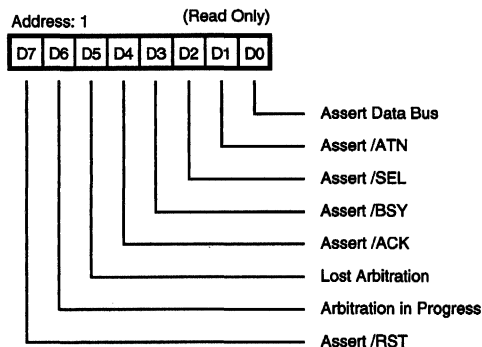

Figure 21. Initiator Command Register (Register Read)
**Initiator Command Register** Address 1 (read/write). The Initiator Command Register (Figures 21 and 22) are read and write registers which assert certain SCSI Bus signals, monitors those signals, and monitors the progress of bus arbitration. Many of these bits are significant only when being used as an Initiator; however, most can be used during Target role operation.